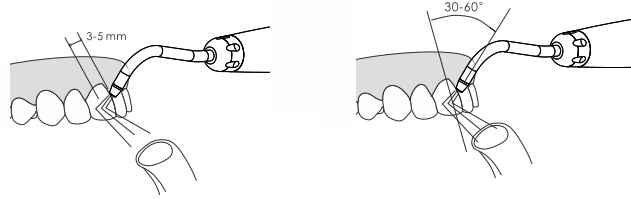

Figure 9 Supragingival sandblasting
1. Do not direct the nozzle directly towards to the surface of teeth. Respect a distance of 3 to 5mm. Vary the angle between nozzle and tooth from 30 to 60 degrees. (See Fig. 9)